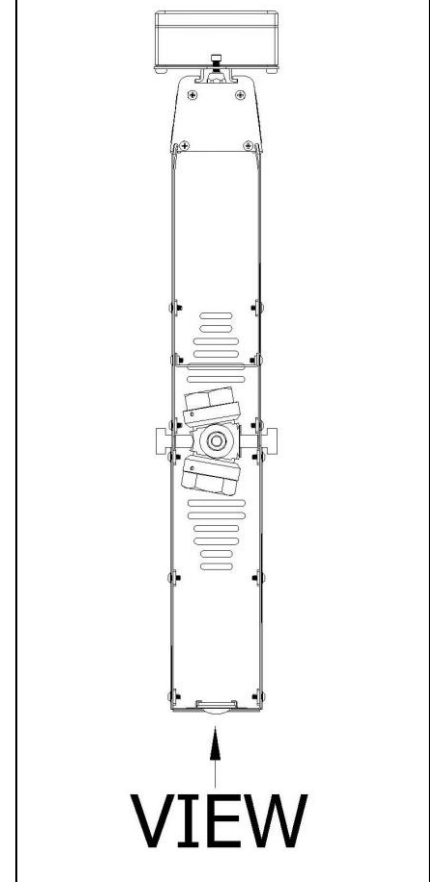

Figure 2
- 2) Install the Illuminator first by attaching the top slots onto the Wing Screws and lowering the bottom slots into place. The Illuminator is assembled to the back of the gage as you will view the level. **Note: The Simpliport Gage must be viewed with the packing nuts facing slightly to the left. Make sure that the Illuminator and viewing hood are in the correct orientation to the Simpliport Gage (Fig. 2).**